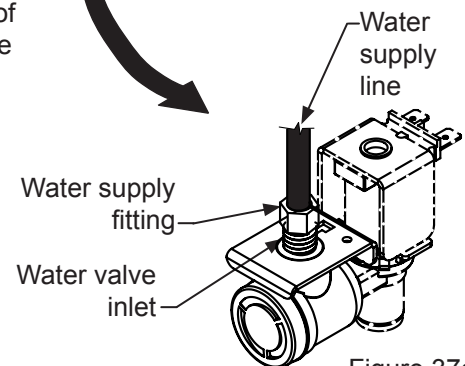
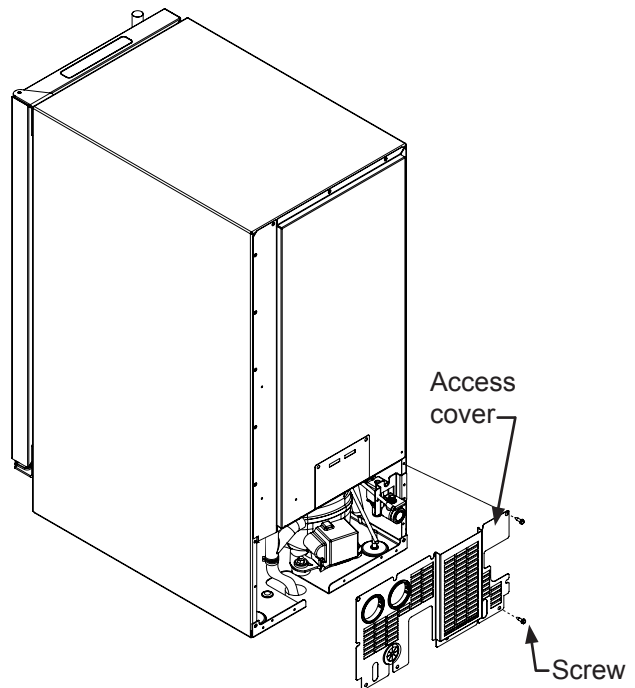

Figure 37a
Figure 38
2. Disconnect the water supply fitting at the inlet of the water valve. (See Figure 37a).
3. Change the electronic control to the "CLEAN" position for approximately one (1) minute. This will energize and open the water valve and remove most of the water from the water valve and the water valve's outlet water line to the reservoir.
6. Remove the access cover from the rear of the ice machine. (See Figure 38).